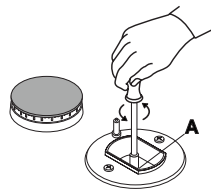

fig.9
- Unscrew the nozzles "A" (fig.9) using a 7 mm socket wrench and replace them with the ones which have a diameter suitable for the type of gas to be used, according to the table 1 "burners and nozzles specifications).